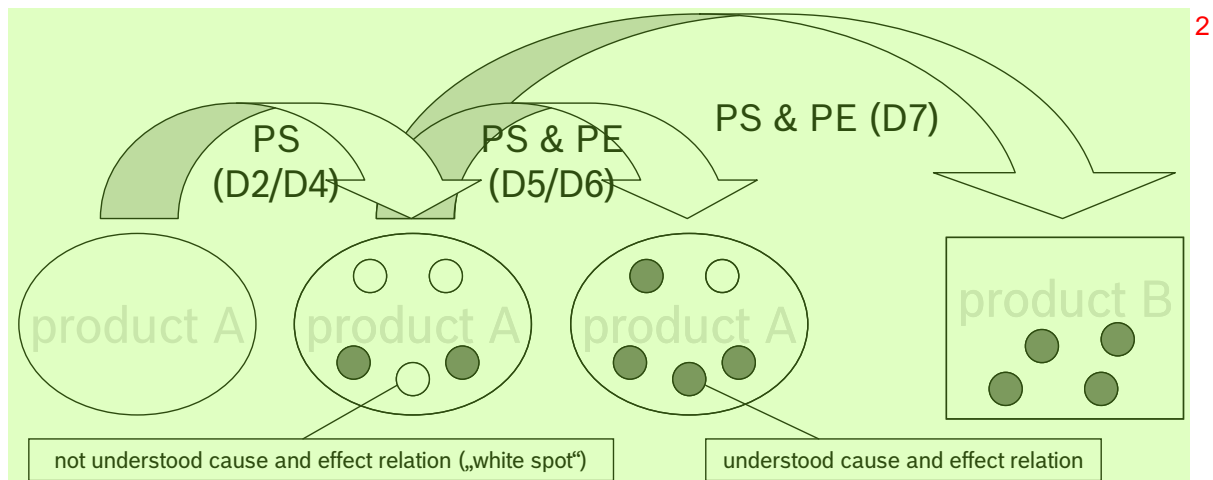

Fig. 5.5: Improved product understanding through problem solving (PS) and product engineering (PE) 3
This variety and complexity give rise to the special claim to resolving product problems with the necessity of understanding the collaboration. The procedure is therefore aimed at **understanding** the causes and their **functional relationships** and effects on the basis of **understood design** and **understood production processes** according to the principles of product engineering (PE) [PEHB10]. In problem solving (PS), areas of **cause-effect relationships** that have either not been understood or looked at to date (so-called "white spots") are identified (steps D2 and D4). As part of the solution (steps D5 and D6), the gaps in knowledge with respect to these areas are closed ("well understood cause-effect relationships") and transferred to other products and / or processes (step D7) (figure 5.5).